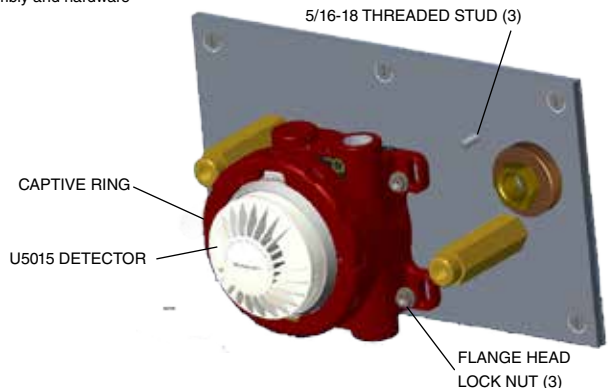

Figure 7—U5015 Smoke Detector mounted on Q5016 plate assembly
1. Remove the three flange head lock nuts on the plate (Figure 7). Place the U5015 Smoke Detector over the hole locations, centering it in the slots. Replace and fasten the nuts to secure the detector to the plate.